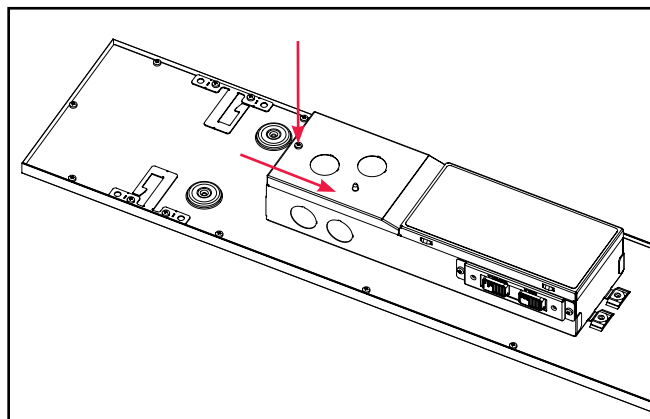

Figure 6.
8. Tuck all wires and wire nuts into the fixture junction box, replace electrical access plate, and fasten screw (Figure 6).